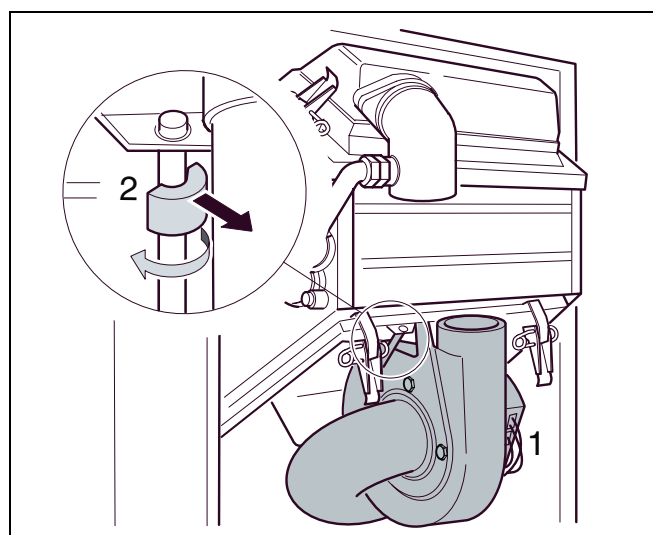

fig. 57 Removing safety retainers
- Pull out the plug of the fan (fig. 57, item 1).
- Turn and pull out the safety retainer of the fan (fig. 57, item 2).